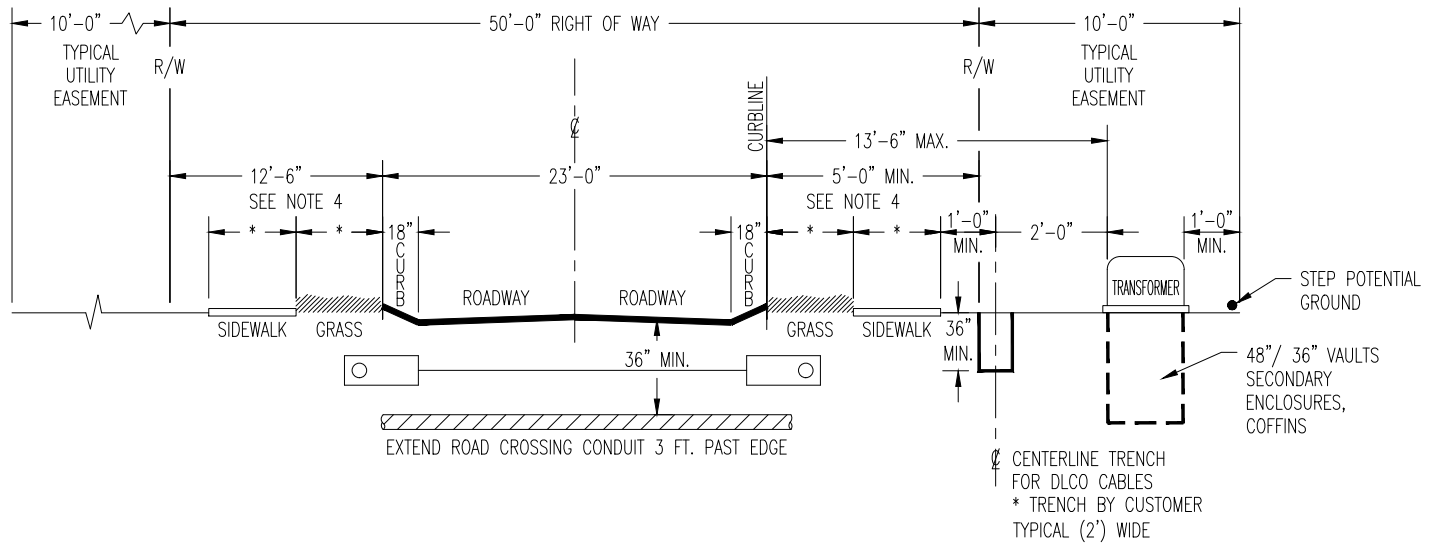

FIGURE 9.
4.3 Typical Company Equipment Road Profile (See Figure 9)